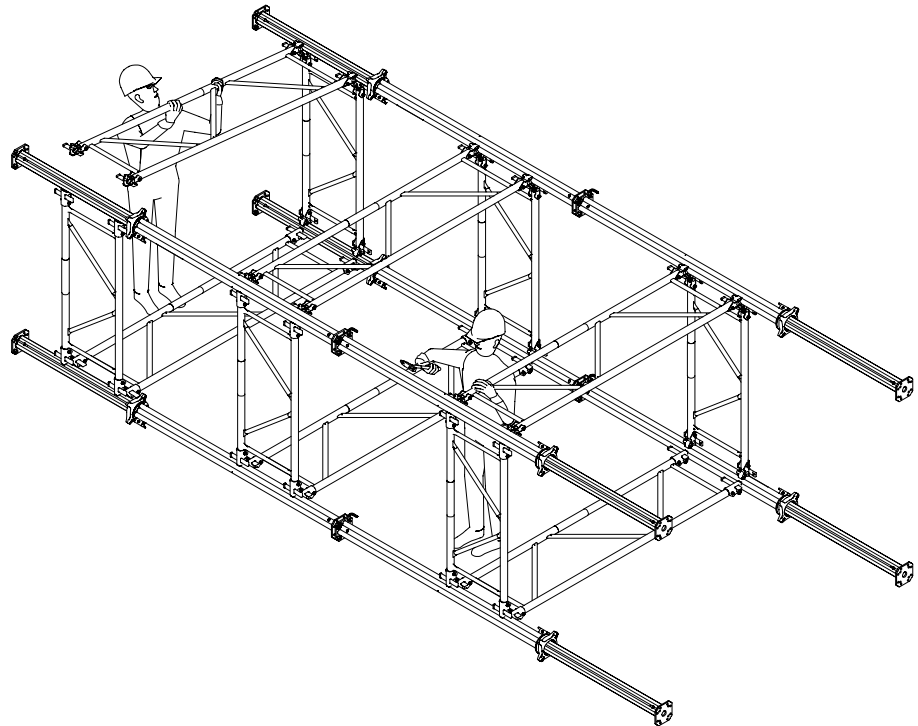

Fig. A3.04
6. Install top frames. (Fig. A3.04)